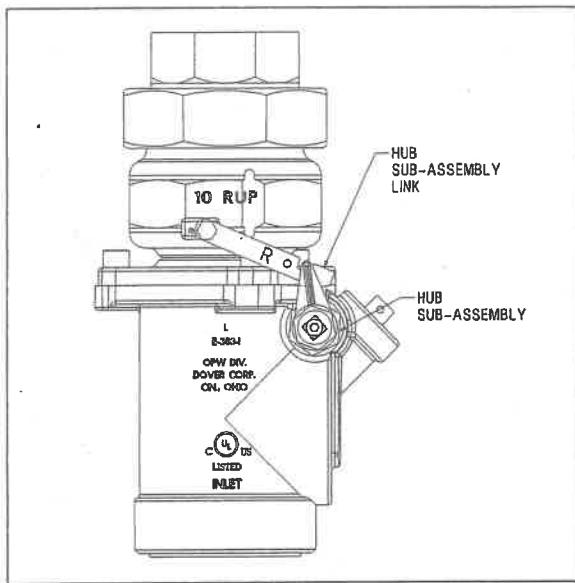

Figure 4
After the valve has been attached to riser and pedestal piping, and pressure testing completed it should be cocked open. To open the valve, rotate the hub sub-assembly to the left (counter-clockwise), raise the hub sub-assembly link and engage it with the pin in the hub sub-assembly. (See Figure 4.)
1. By pushing down on the hub sub-assembly link. (See Figure 4.)